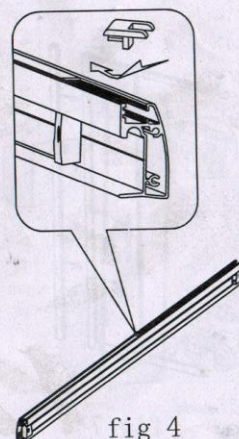

fig 4
3. Insert the glass holder (9) into the grooves of guild rail (1). (fig 4)